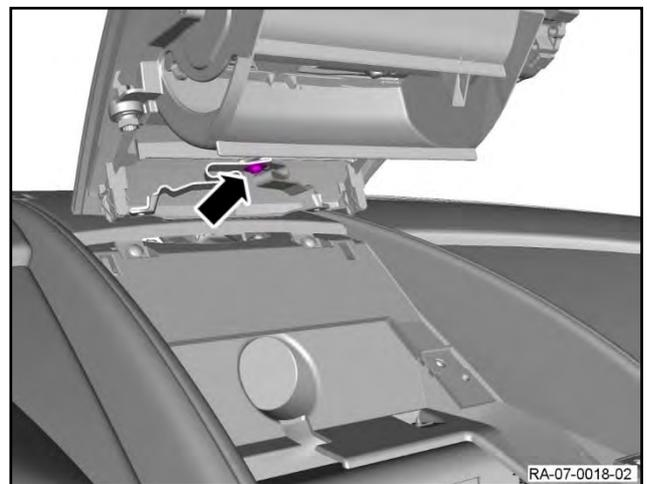

Figure 17
24. Remove the screw that attaches the two tethers to the veneer bezel (refer to Figure 17).